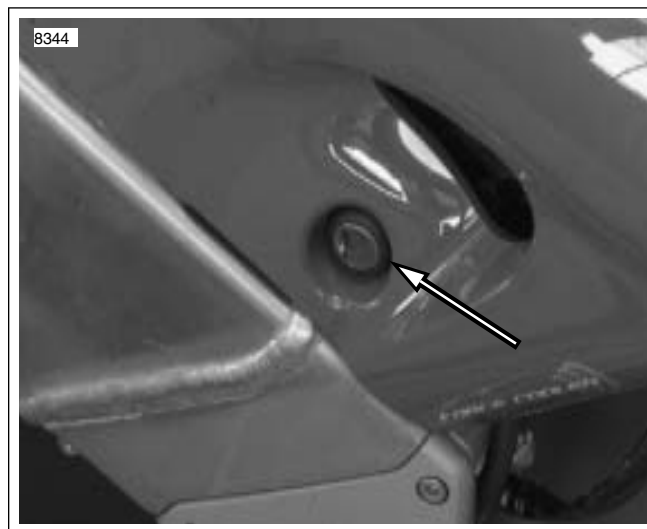

Figure 2-126. Pillion Seat Lock
1. See Figure 2-126. Insert ignition key into pillion seat lock located on left side of motorcycle. Turn key clockwise to disengage rear seat latch.